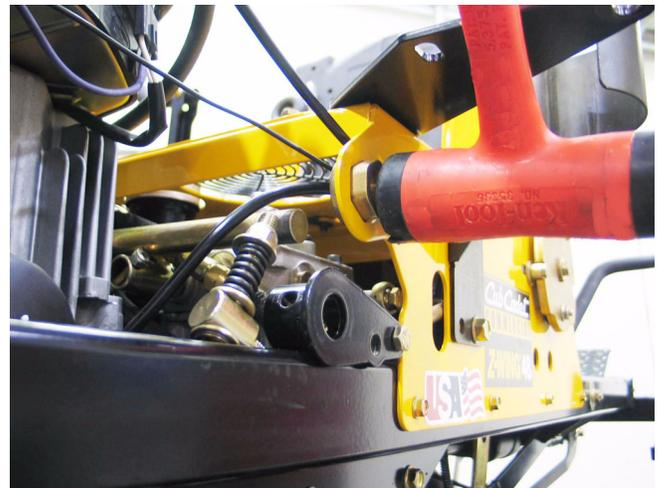

Figure 22.11
- 22.11. The bushings can be easily driven inward for removal. New bushings should be installed from the inside-out. See Figure 22.11.